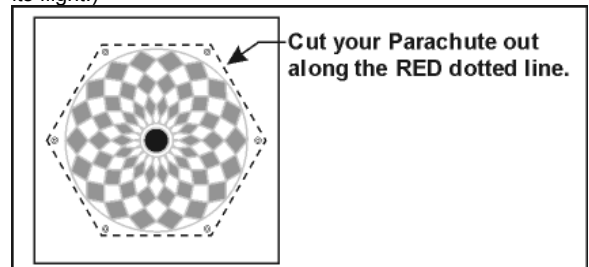

Figure 13
- 13. **Figure 13** shows you the **Parachute** unfolded. You need to cut out the 6-sided parachute as described. (**Thing-a-ma-FACT:** The **Parachute** is used to slow the model’s descent after its flight.)